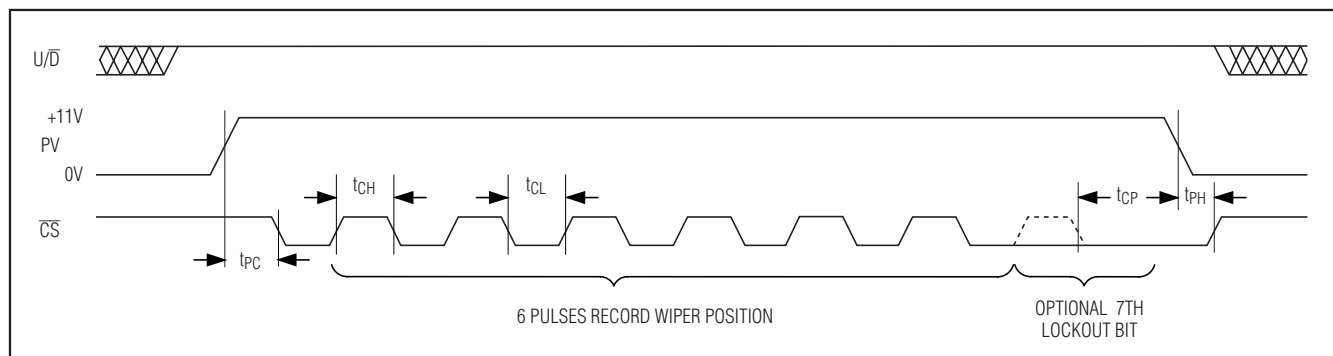

Figure 5. One-Time Program Mode, Serial-Interface Timing Diagram
Change the wiper's power-up position using the PV one-time programming sequence after power-up (see Figure 5). After setting the wiper to the desired power-up position, perform the following six-step sequence:
- 4b) Pulse \overline{CS} high for seven cycles, consisting of \overline{CS} starting low and going high for at least t_{CH} and then low for at least t_{CL} , to change the wiper power-up position and lock the wiper in that same position. The seventh \overline{CS} pulse is labeled the optional lockout bit in Figure 5.